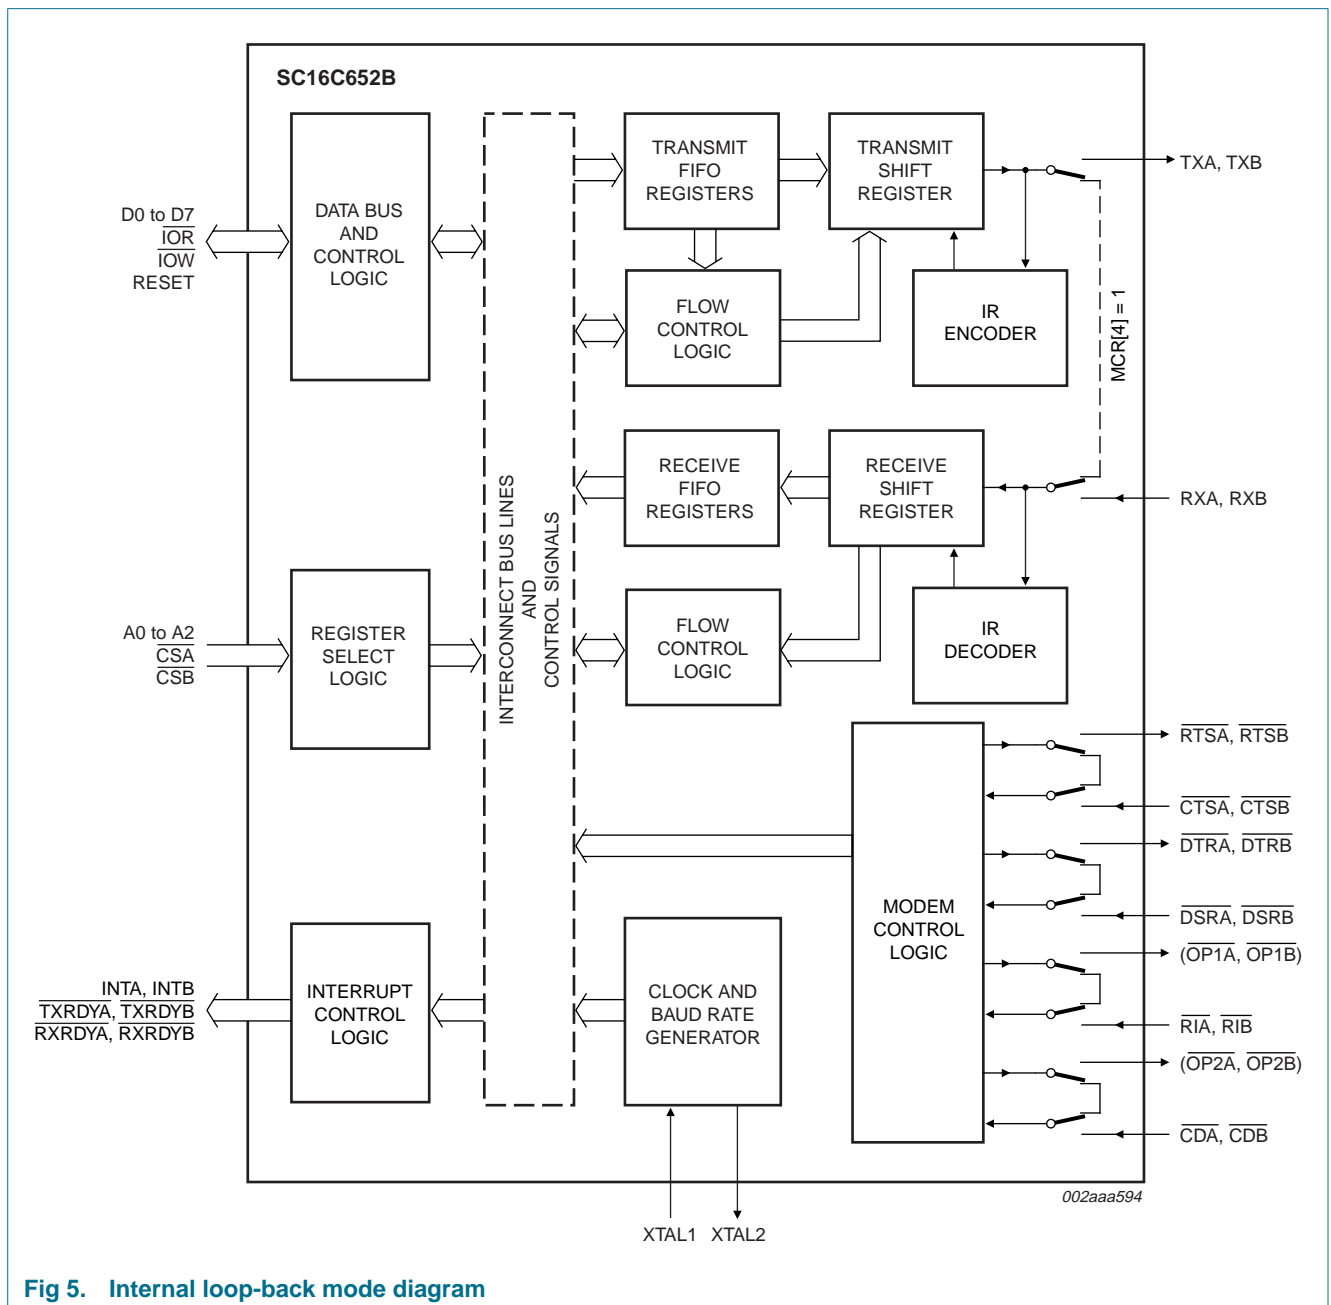

Fig 5. Internal loop-back mode diagram
The internal loop-back capability allows on-board diagnostics. In the loop-back mode, the normal modem interface pins are disconnected and reconfigured for loop-back internally (see Figure 5). MCR[3:0] register bits are used for controlling loop-back diagnostic testing. In the loop-back mode, the transmitter output (TX) and the receiver input (RX) are disconnected from their associated interface pins, and instead are connected together internally. The $\overline{\text{CTS}}$, $\overline{\text{DSR}}$, $\overline{\text{CD}}$, and $\overline{\text{RI}}$ are disconnected from their normal modem control inputs pins, and instead are connected internally to $\overline{\text{RTS}}$, $\overline{\text{DTR}}$, MCR[3] ($\overline{\text{OP2}}$) and